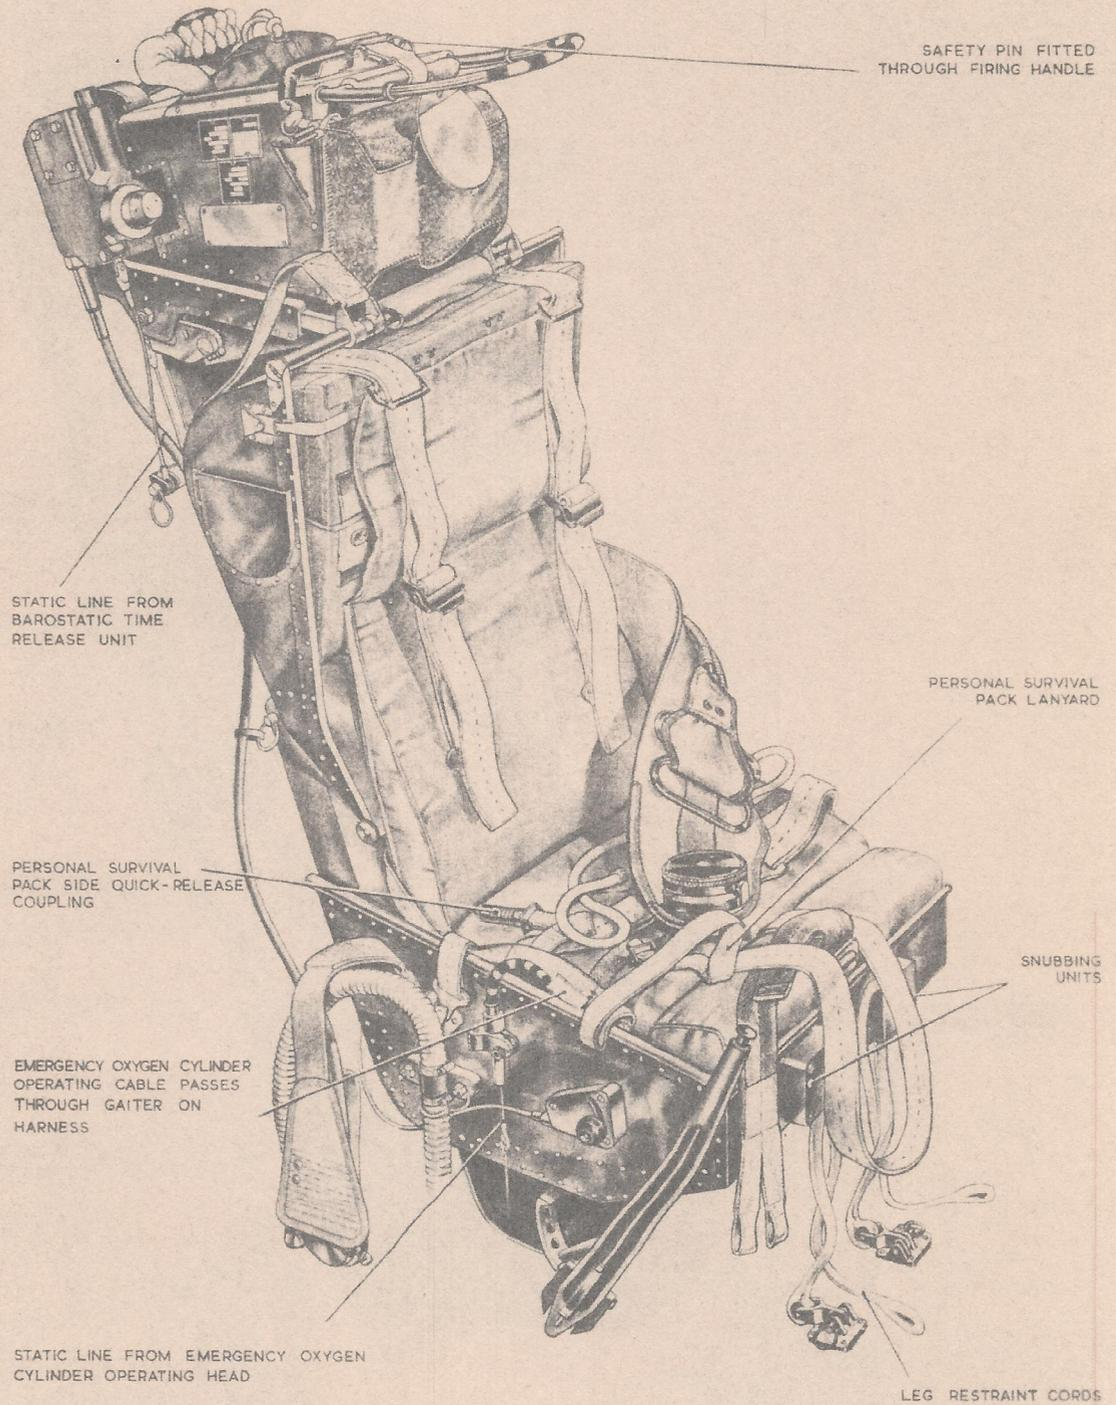

Fig. 1. The seat equipped (1)
9. The following procedure is to be adopted when fitting the items of equipment into the seat; refer to fig. 1, 2, 3 and 4 for detail, as necessary:—